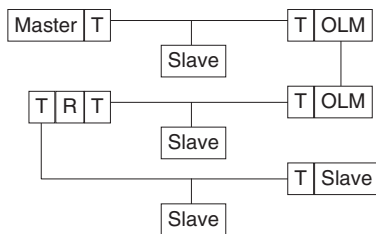

Figure 2.1: Example: bus segments with bus termination
**Example**(view Figure 2.1 on page 13): one line with 1 master, 4 slaves, one fiber optic link, 1 repeater (R), 3 segments, and 6 bus terminations (T): Master (T) – Slave (T) – OLM – fiber optic link – OLM (T) – Slave – (T) Repeater (T) – Slave – (T) Slave.